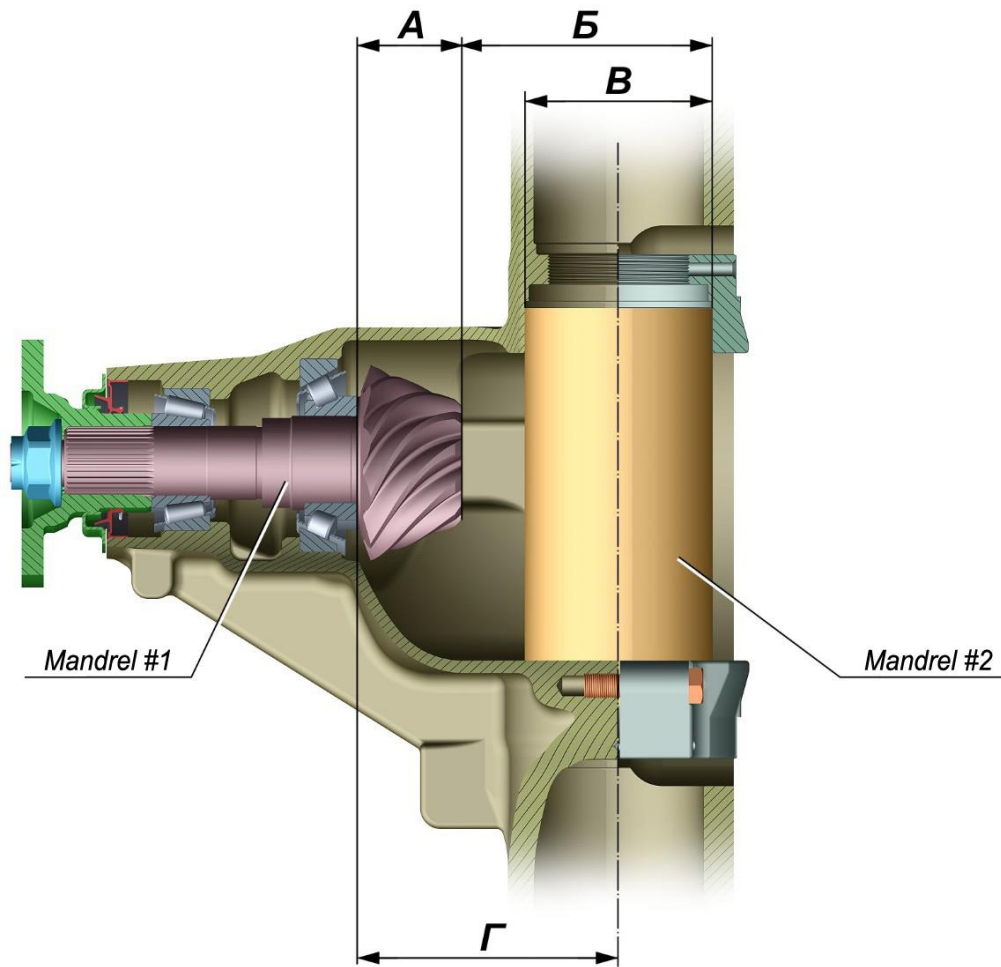

Fig. 3.84. Drive gear position adjustment diagram
- measure dimension B (Fig. 3.84) from the rear face of mandrel #1 to mandrel #2;